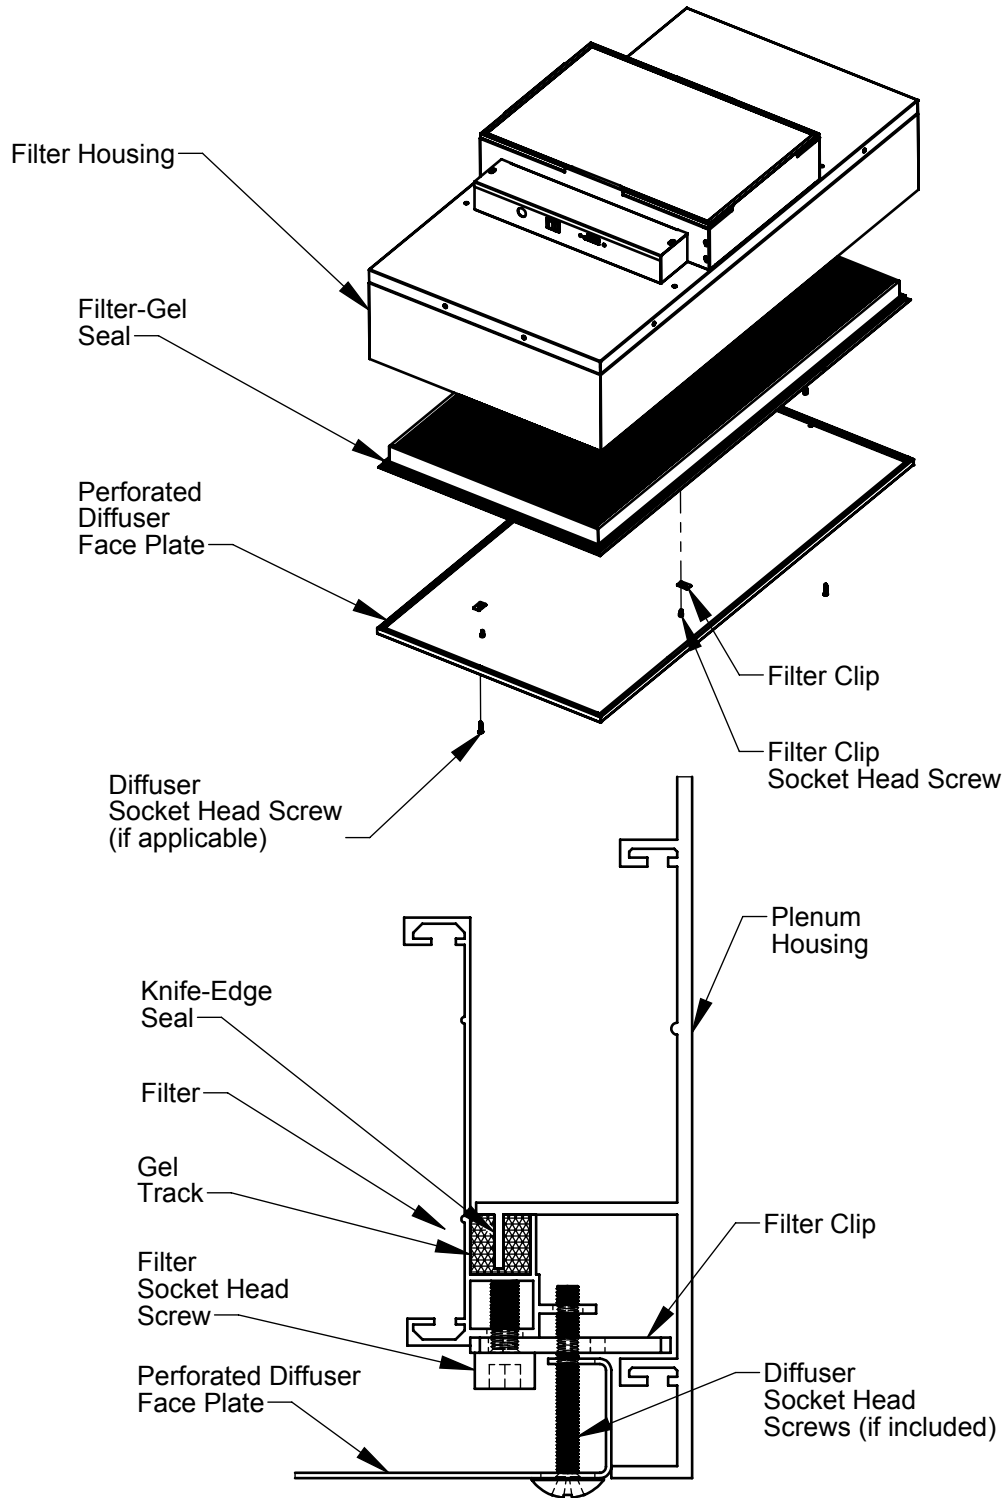

FIGURE 4 - RSR Filter Replacement (Extrusion Construction)
4. Remove the diffuser face plate. This may require the removal of four socket head screws that attach the screen to the filter as shown in figure 4.